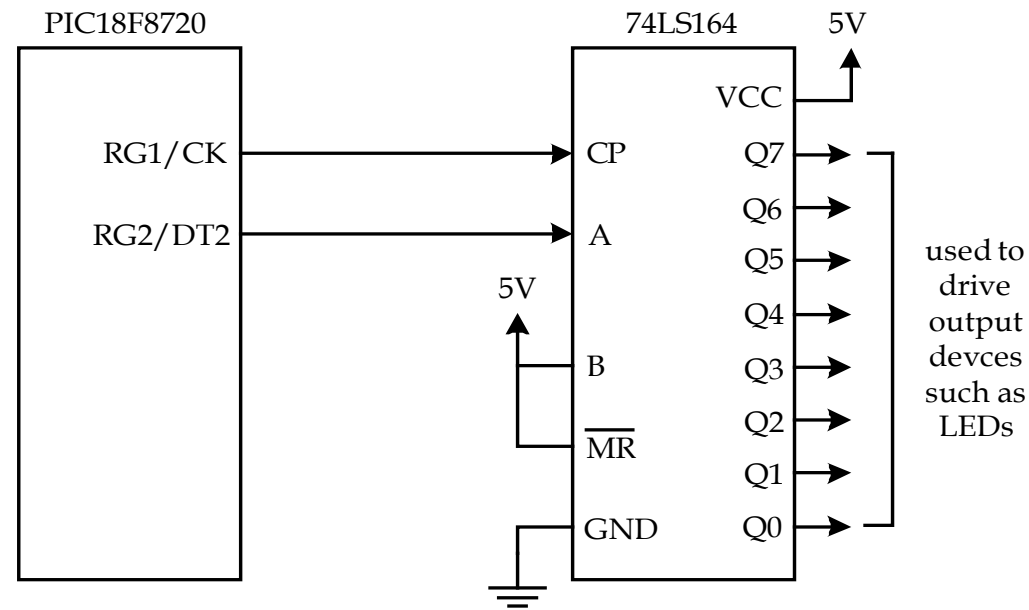

Figure 9.19 Circuit connection between the PIC18F8720 and 74LS164
**Solution:** The circuit connection is shown in Figure 9.19. Q7...Q0 should be used as the least significant bit to the most significant bit.